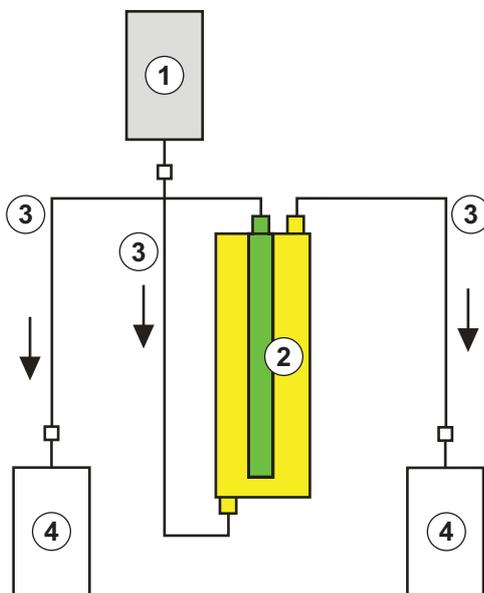

Fig. 10-9 Set-up for precipitate filter rinsing
Materials: See legend to Fig. 10-9
2. Attach the remaining connection lines and the collection bags as shown in Fig. 10-9 with the upper precipitate and filtrate-side opening of the filter and clamp the line on the filtrate side.